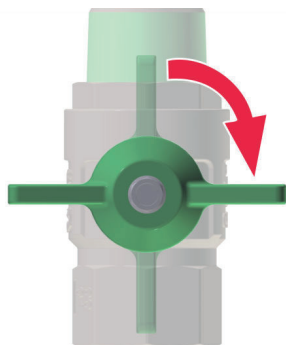

Fig. 30: Ball valves closed **Filling**
1. ➤ Ensure that all ball valves (Fig. 30) are closed.